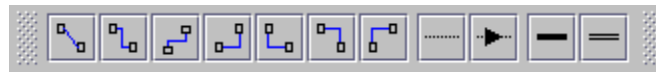

Figure 25 : Links tool bar
- ◆ Links tool bar (Figure 25): it provides various kinds of graphical links between components or equipments: